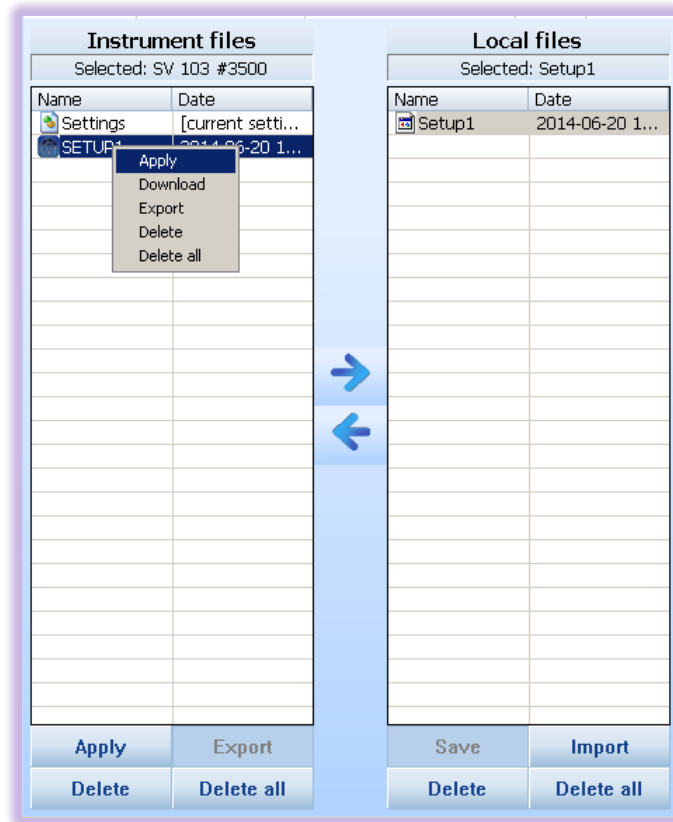

Figure 5-6 "Instrument files" panel and context commands
10. Once copied select the copied file in the Instrument files, and right click onto it to open context menu. Then choose **"Apply"** command (Figure 5-6). Alternatively, you can enter the **"Load Setup"** menu directly in the instrument and load it as the current configuration. See chapter 4.4 for details.